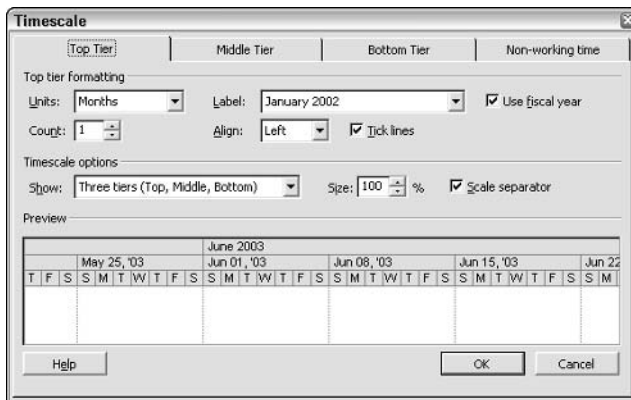

Figure 4-12: In the Timescale dialog box, adjust the units to display and set the heading labels and alignment.
- ♦ Modify the increments of time displayed in the timescale itself either by double-clicking the timescale or by choosing Format→Timescale. The Timescale dialog box appears, as shown in Figure 4-12. You can change the units for the top tier, the middle tier, and the bottom tier. These adjustments enable you to concentrate on a particular period in your project or to view larger increments with less detail. The Count field controls how many instances of the unit Project marks off on your Gantt Chart.